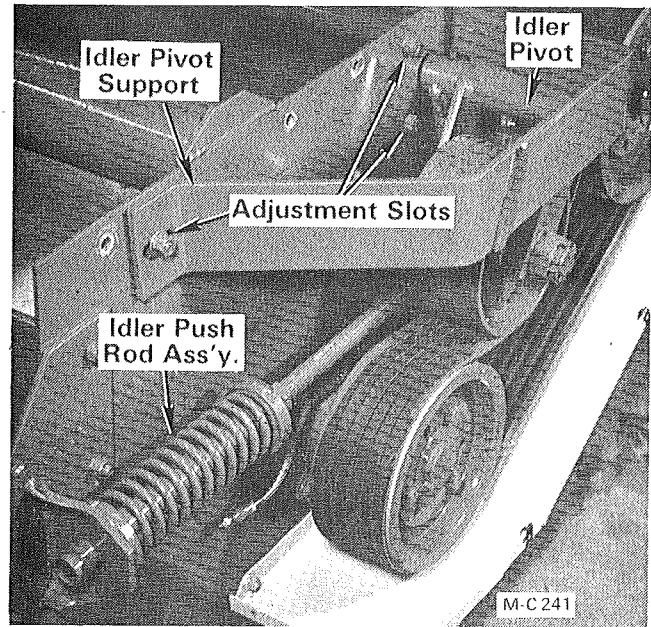

Figure 34 - Idler Push Rod Ass'y. Below S/N 50439
4. The idler pivot support is adjustable horizontally and the idler pivot is adjustable vertically, see Figure 34.